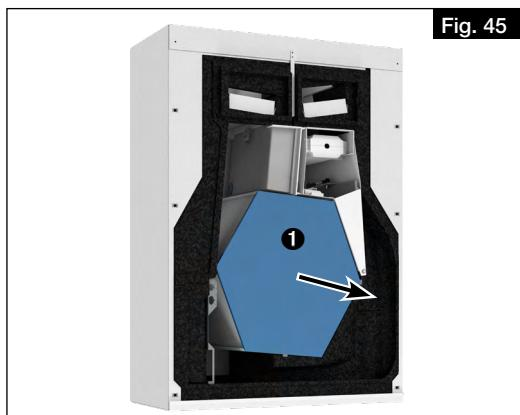

Fig. 45
3. Carefully remove the heat exchanger ① from the unit (see Fig. 45).